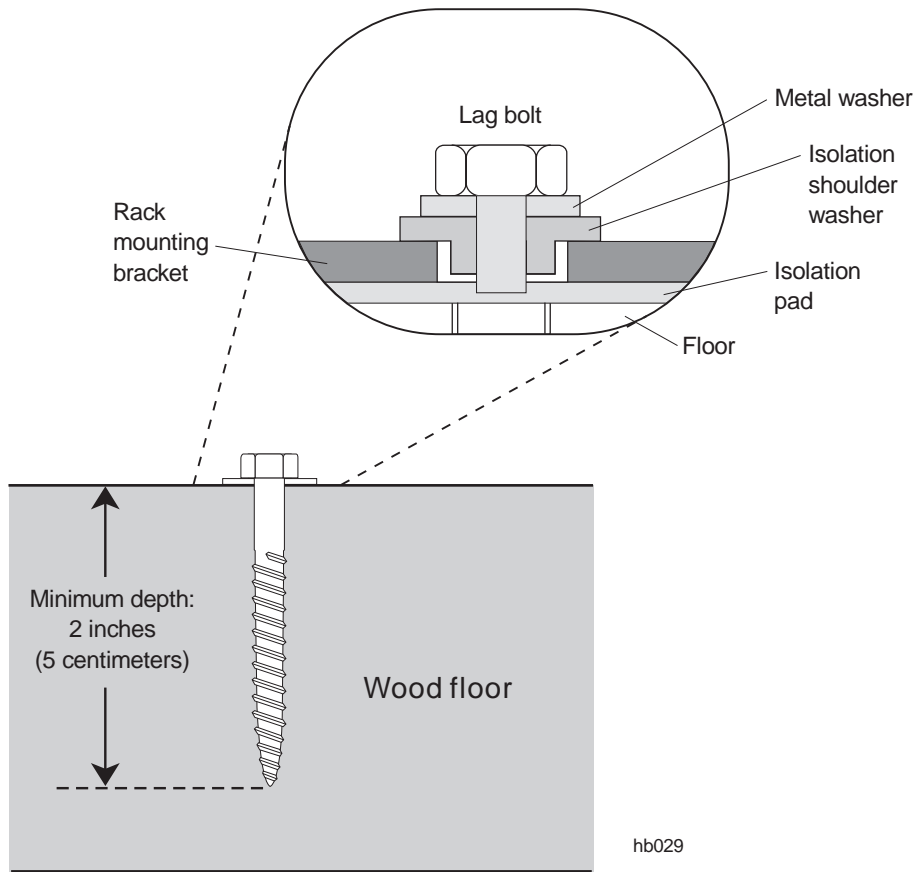

Figure 6-3 Installing lag bolts into a wood floor
13. Clean out the holes and position the isolation pad and rack mounting bracket over the holes, as shown in figure 6-3.
14. Place the washers shown in figure 6-3 onto the lag bolt.